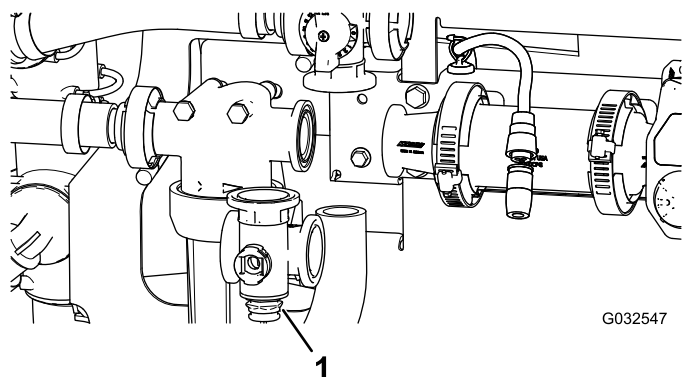

Figure 98
2. Remove the agitation-valve manifold from the machine (Figure 98).